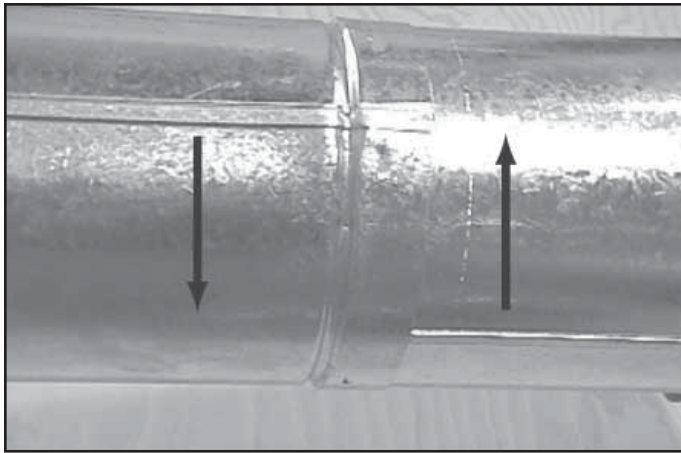
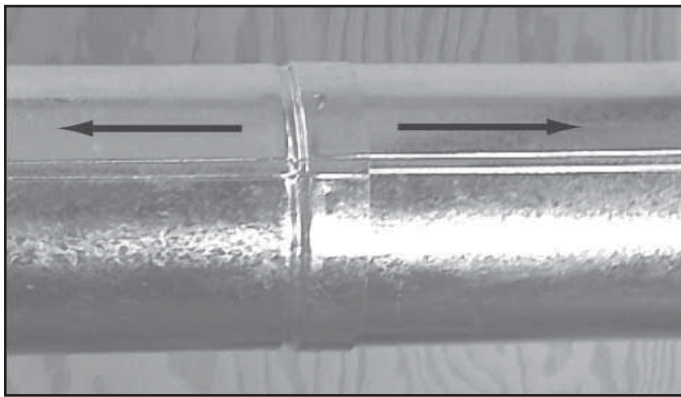

Figure 10.9 Rotate Seams for Disassembly
Figure 10.10 Align and Disassemble Vent Sections
- Rotate either section (see Figure 10.9) so the seams on both pipe sections are aligned as shown in Figure 10.10.